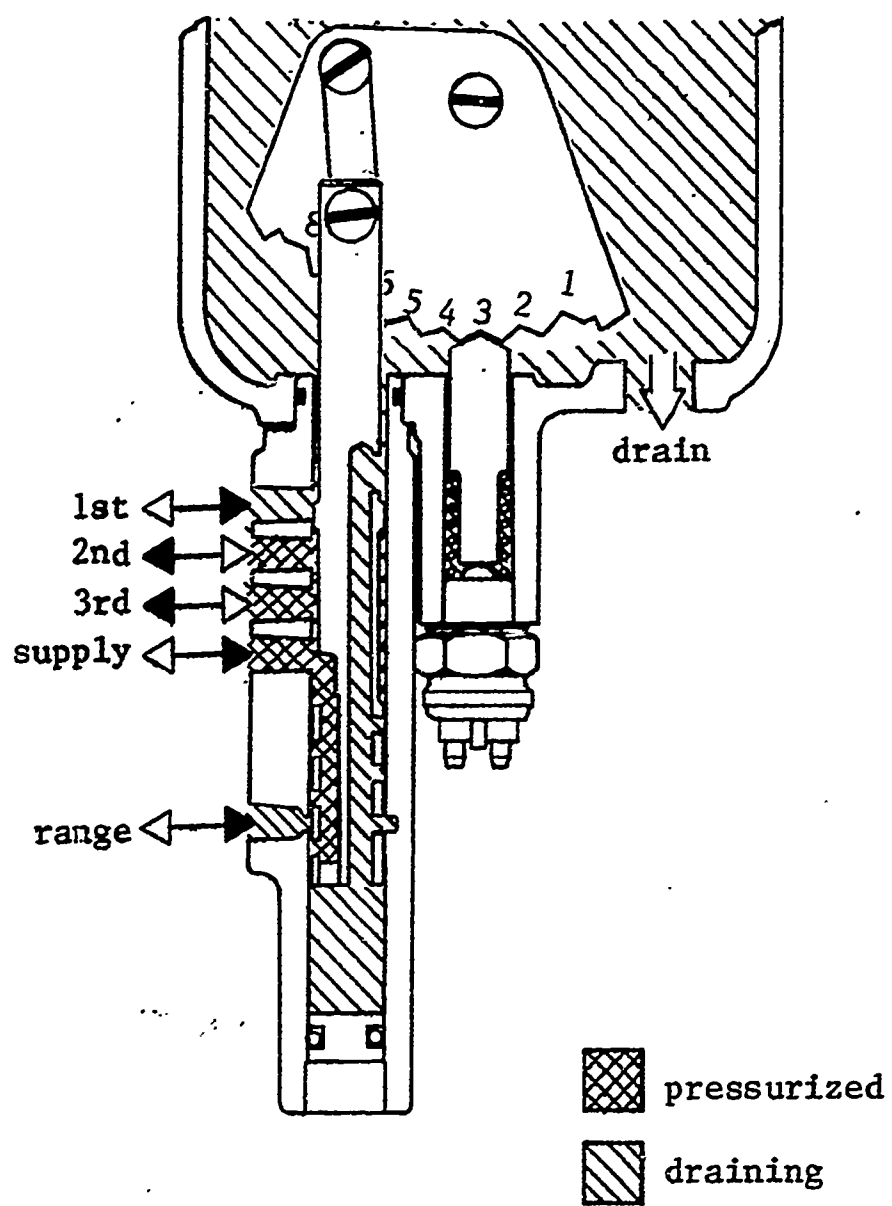

Fig. 5 Control valve in third gear
Figure 5 shows the shift control valve in third gear position or second reverse. There is pressure in hoses (2) and (3). Hose (1) pressure is draining off around the spool, and the range hose is draining off through the drilled passage in the spool. Both hoses drain into the main housing and on to the transmission through the drain hose.